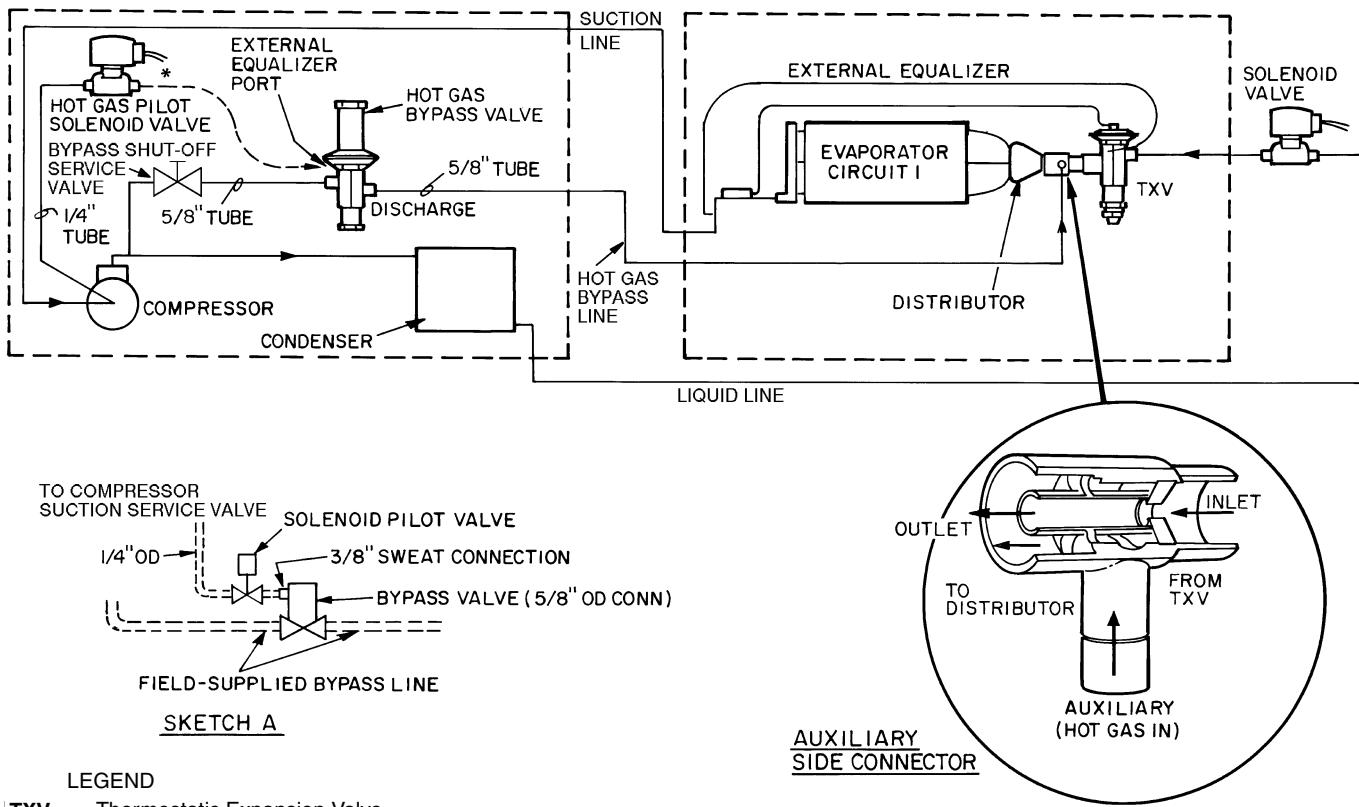

Fig. 13 — Hot Gas Bypass Piping
Step 1 — Install Piping (See Fig. 13)